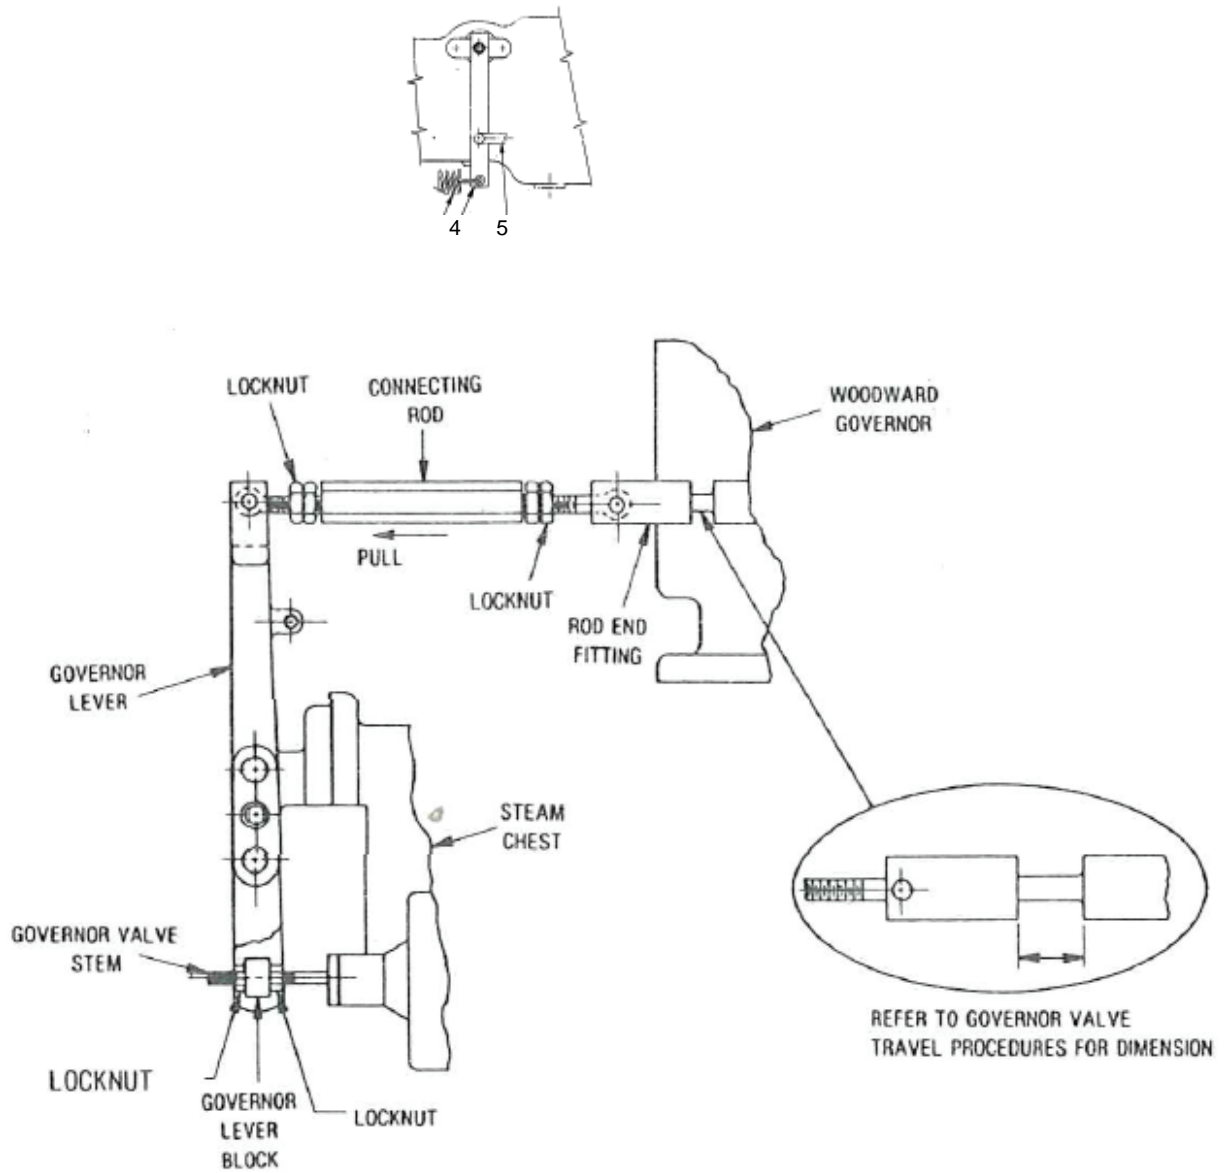

Figure L-18. Trip Valve Lever Orientation-Trip Valve Open and Closed
- b. Manually pull out on the governor linkage to close the governor valve. On the turbine, it may be necessary to remove the pin from the connecting rod. (See lower view of Figure L-18)